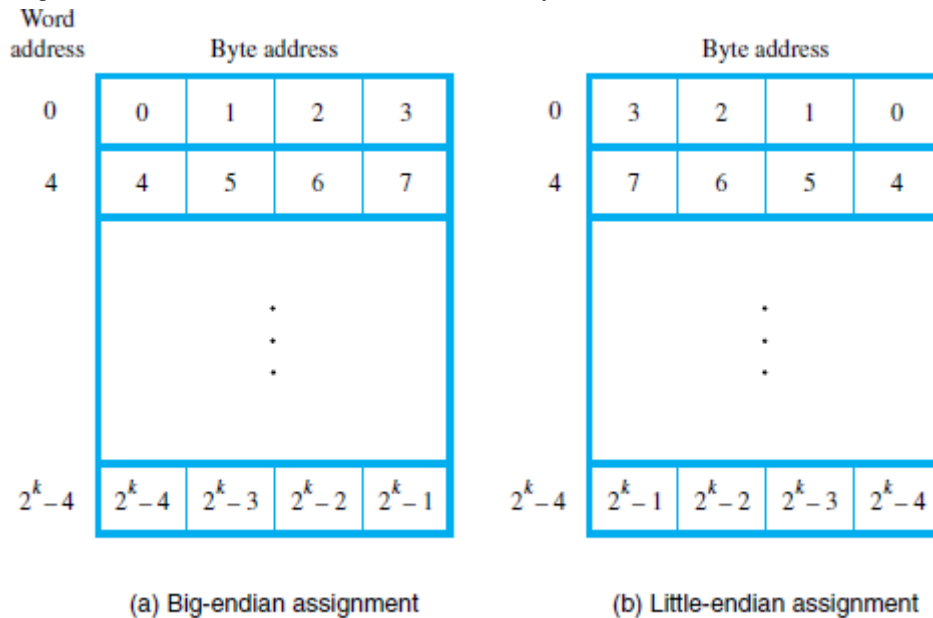

Figure 2.3
- There are two ways in which byte-addresses are arranged (Figure 2.3).